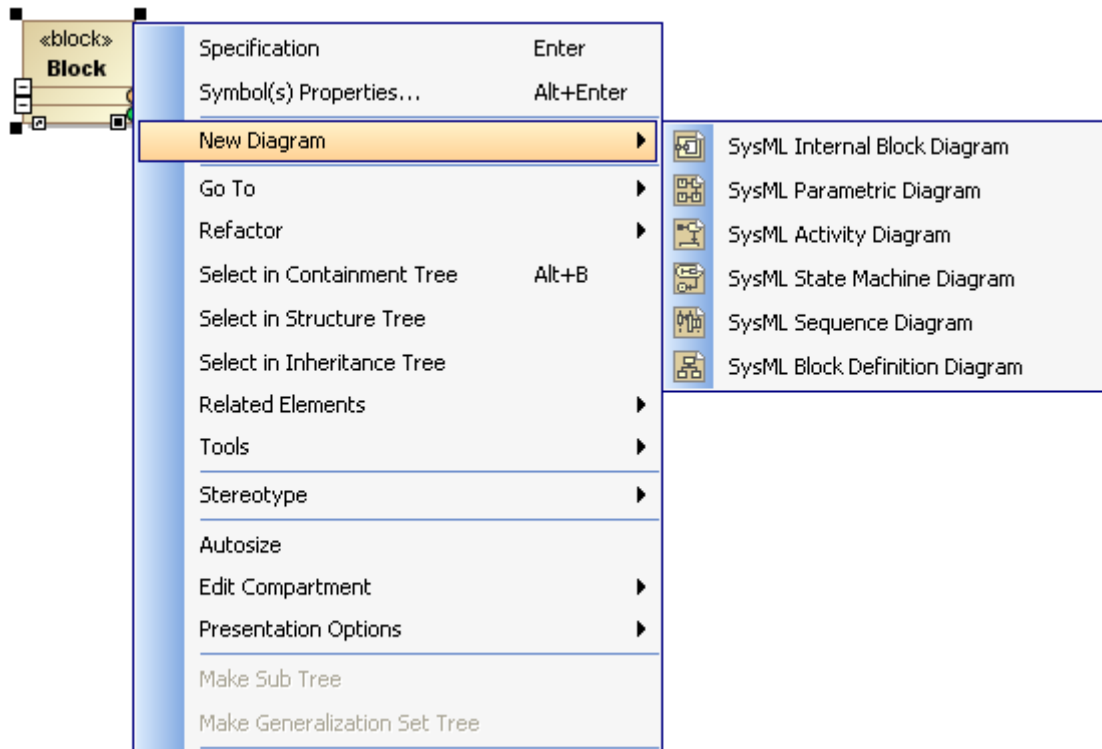

Figure 17 -- Inserting SysML Diagram from the Shortcut Menu
2. Select one of the diagrams in the expanded sub-menu (Figure 17).